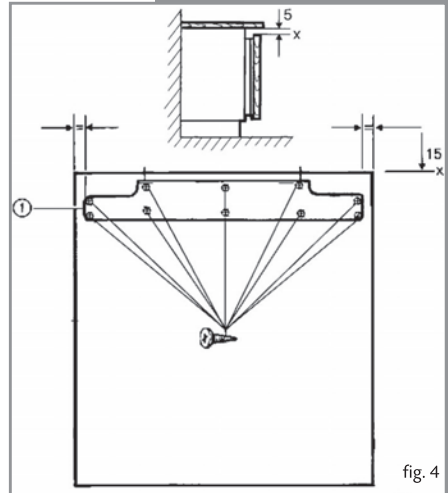
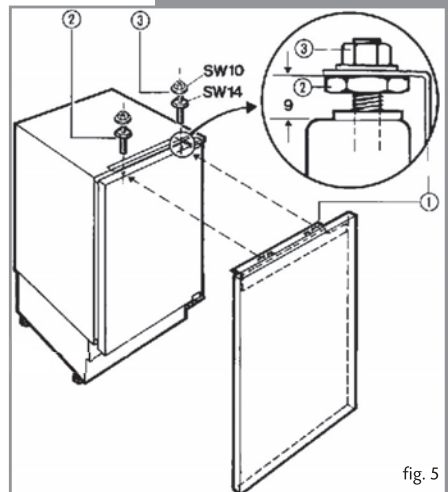

fig. 4
fig. 5
- Screw mounting bracket (1) onto decor door using the screws supplied (as show in figure 4).
- Ensure there is a 5mm clearance between the underside of the worktop and upper edge (X) of the decor panel.
- Screw the four adjusting pins (2) fully into the appliance door.
- Position the decor door on the appliance door; introduce the locating pins at top into the slots in the mounting plate and open out according to detail in figure 5 (about 9mm).
5. Holding the door, swing the upper door hinge away from the door using the other hand (Fig. 4).
6. Remove the two screws, which attach the lower hinge to the appliance door (Fig. 5). Take special care and hold the appliance door with the other hand.